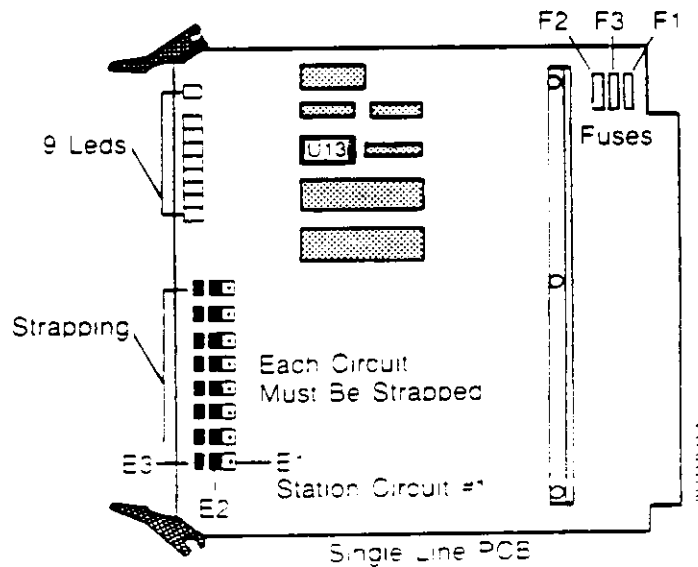

Figure 5-13 SINGLE LINE (B-8SLU-B) STRAPPING, EK-824/1232/1648
3.27 Single Line (B-8SLU-B) PCBs are required when single line (2500 type) or one button telephones are used in the system. Each PCB contains eight single line circuits and occupies one station PCB slot in the KSU. Each circuit on the B-8SLU-B PCB must be strapped to indicate the type of telephone being used. For 2500 type telephones, strap each circuit in the E1-E2 position (Figure 5-13). For One Button Telephones and OPX stations, strap each circuit in the E2-E3 position.